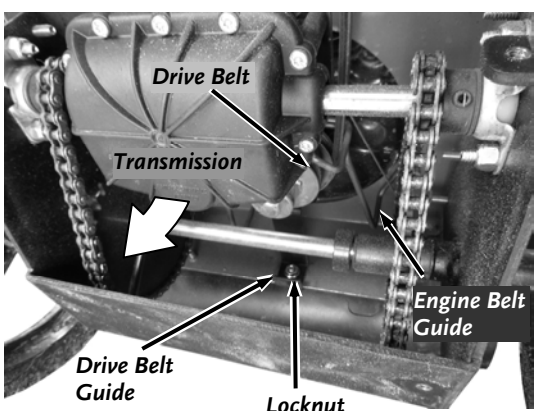

Figure 32
6. Loosen the Drive Belt Guide Locknut at the rear of the Frame using a 7/16" Socket w/Ratchet and rotate the Guide out of the way (**Figure 32**).